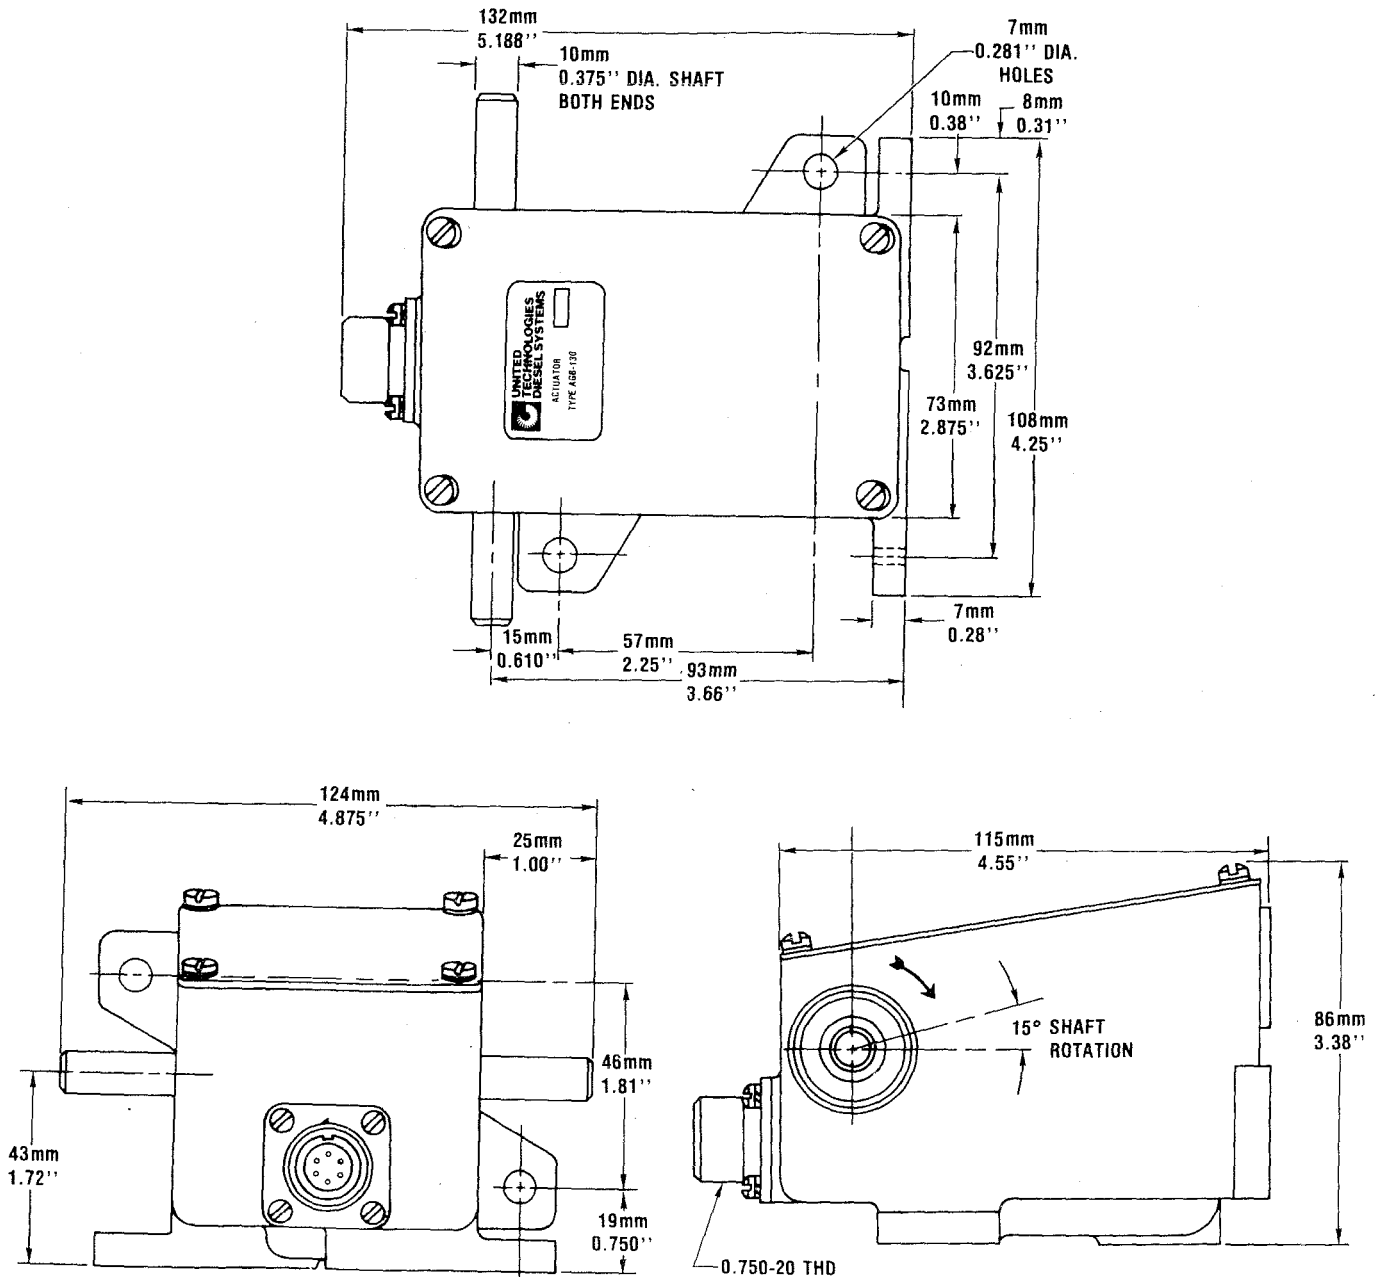

Figure 2. AGB 130 actuator dimensions
- Dimensions ..... See Figure 2